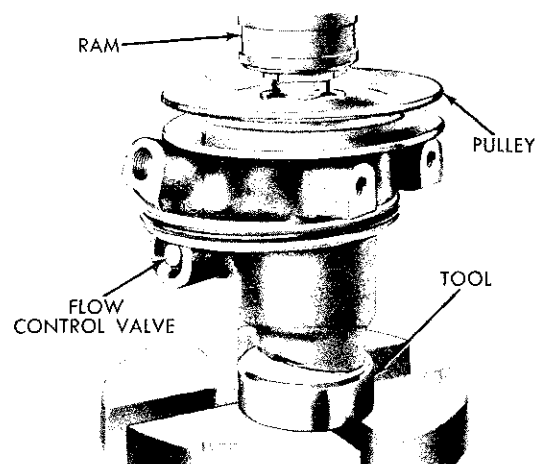

Fig. 7—Installing Pump Pulley
(8) Support the pump body on the holding fixture, Tool C-3643, with the tool dowel pins in the pump bolt holes so that the pressure will be absorbed by the lower end of the pump shaft (Fig. 7).
(3) Install the control valve spring, seating the spring in the spring socket.
(4) Remove any burrs with a fine hone or crocus cloth but **Do Not** round the valve land corners.
(5) Lubricate with 2084329 power steering fluid and install the control valve over the control valve spring and into the bore. When all valve lands have cleared the retaining ring groove area, work the control valve back and forth against spring pressure until the valve operates smooth and freely.
(6) Install a new "O" ring on the end plug.
(7) Lubricate the end plug and "O" ring and install the end plug with the machined projection **out**.
(8) Install the plug retainer ring with the sharp edge of ring **up**.
(9) Install the relief valve if removed.
(10) Install pulley (Fig. 7).
(11) Install a new pump body "O" ring, new reservoir gasket and reservoir and brackets.
(24) Install the flow control valve as outlined under "Flow Control Valve Installation."
(25) Install the pump pulley (Fig. 7).
(26) Install a new "O" ring on the pump body and install the reservoir and pump brackets.